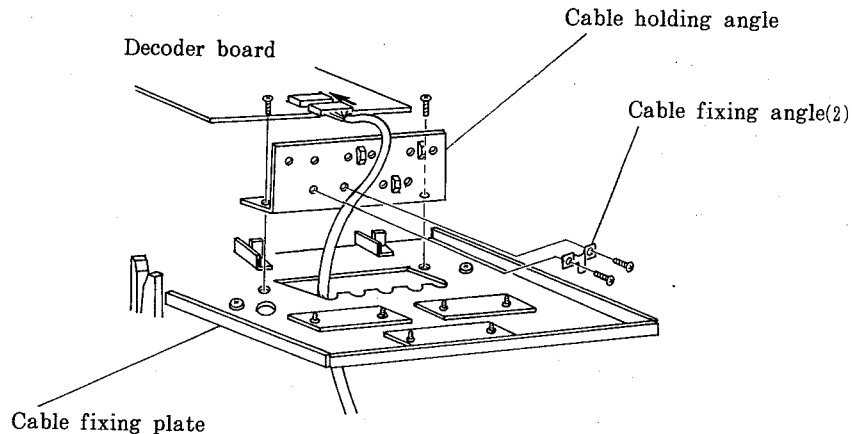

Fig. 50
(7) As shown in Fig.50 above, insert the hand scanner cable into the hole in the cable fixing plate from the lower side, and connect the cable to the decoder board.
(8) Use the cable fixing angle (2) to fix the hand scanner cable onto the cable holding angle. (See Fig.50 above.)
(9) Mount the cable holding angle to the cable fixing plate as before.
(10) Reverse the procedure (2) to attach the rear cover.